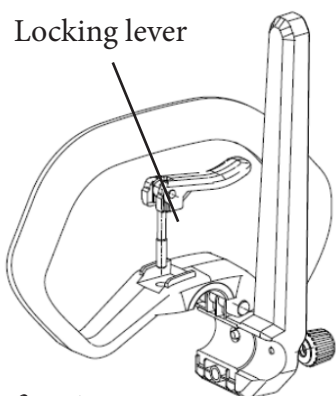

fig.2A
a) Unscrew the locking lever from the front-assist handle. (Fig.2A)